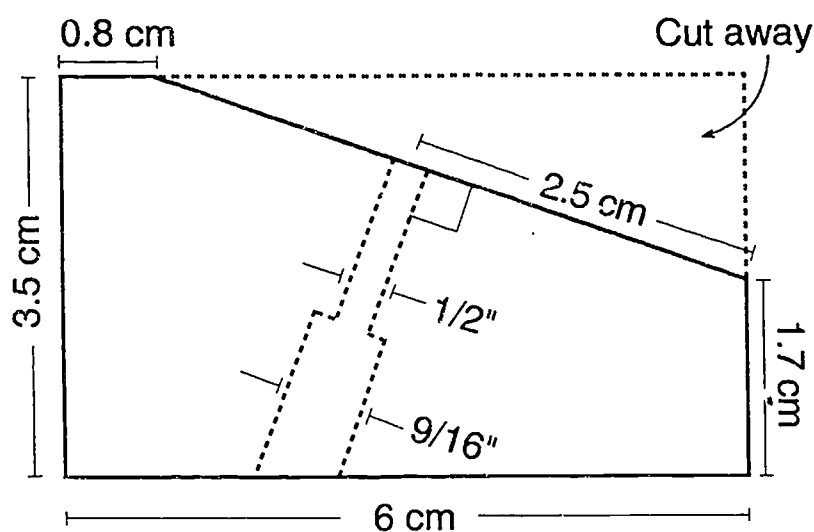

Figure 3. Cutting and drilling the wood block.
3. Cut a wedge from the top of the wood block as shown in Figure 3.